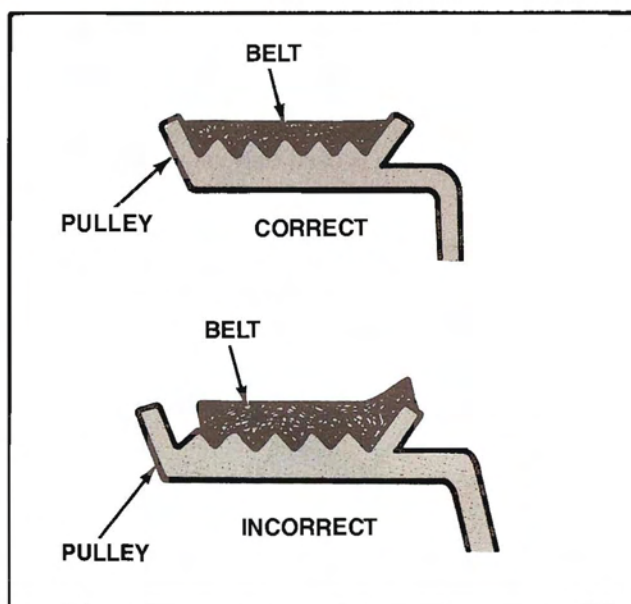

Figure 157. V-Ribbed Belt Installation
2. Check that the ribs and grooves of the V-ribbed belt and pulleys match in place (Fig. 157)